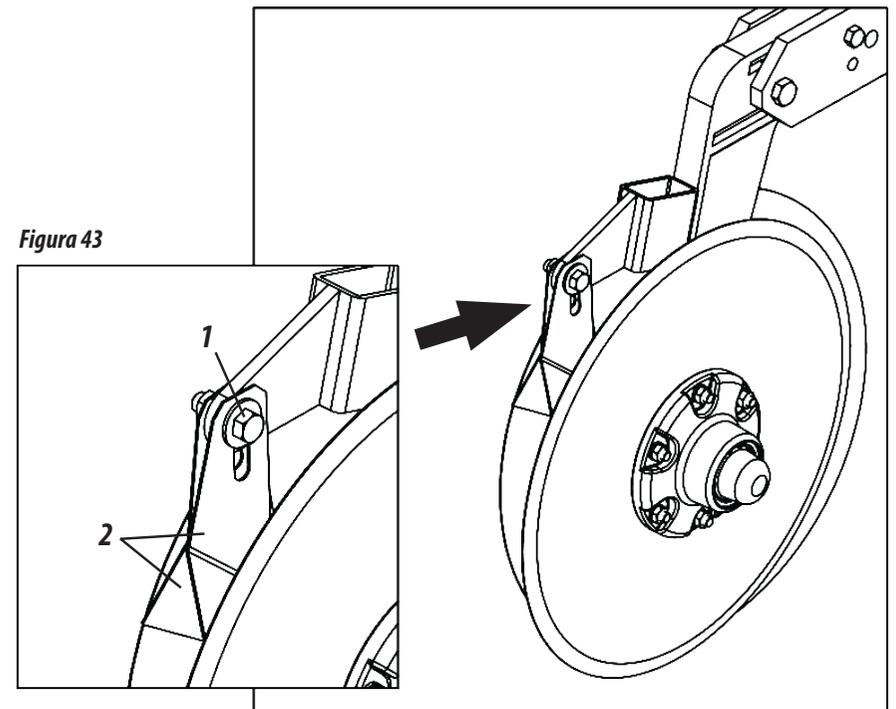

Figura 43
**AJUSTE DE LOS LIMPIADORES DEL DOBLE DISCO ( FIGURA 43 )**